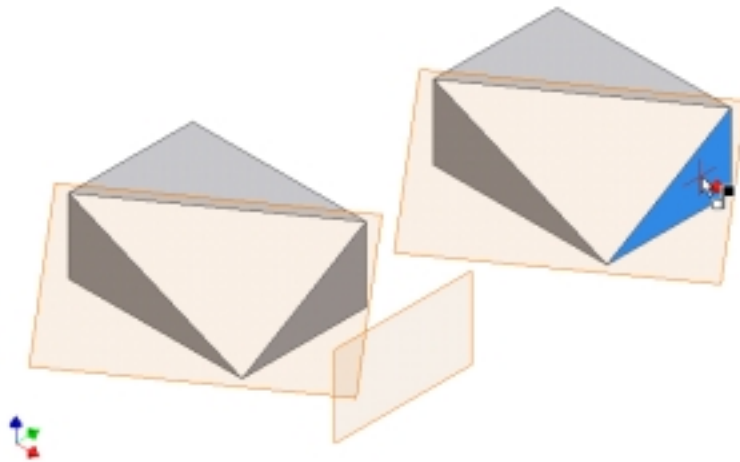

Figure 3-50
11. Place another instance of the component (Work.ipt) in the assembly. (See Figure 3-50.)
12. Hold down the Alt key and select a face indicated in Figure 3-50.